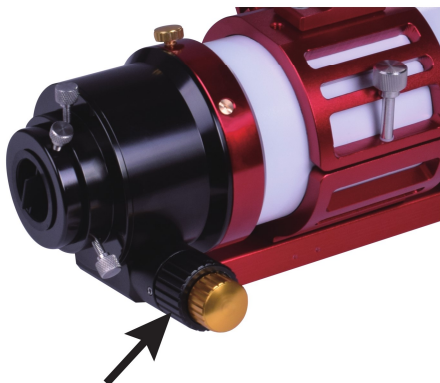

fig.2
3. Use the finderscope or directly collimate the observed object, and then turn the rough focusing knob to make the target gradually clear (figure 2), and then turn the golden microdrive knob to get the clearest image (figure 3).